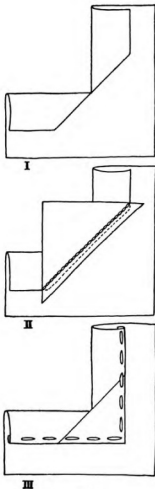

FIGURE 118
*Finish Miter* (Figure 118). — Clip the corner diagonally the width of the desired hem. Fold the hem allowance to the wrong side and press it in place. Match the right side of a triangular piece to the weave and right side of the diagonal cut, and baste before making the plain seam. Turn the triangular piece over and press it flat to the material. Turn under a narrow hem on